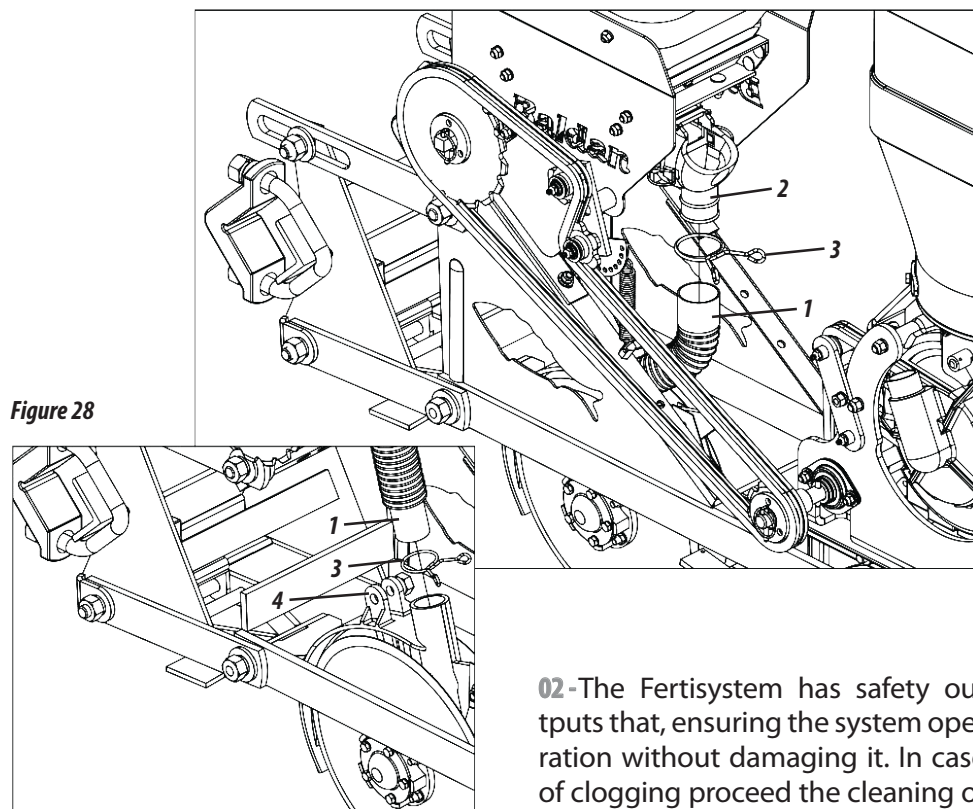

Figure 28
FERTILIZER CONDUCTOR - FERTISYSTEM (FIGURES 28/39) PLB Directa Air 2 / 3 / 4 / 5 / 6 LINES
01 - To conduct the fertilizer from the distributor to the ground, fit the spouts (1) in the fertisystem outputs (2) through the clamps (3). Then fix the hoses (4) in the spouts (1) through the latch spring (5), as shown in Figure 28.